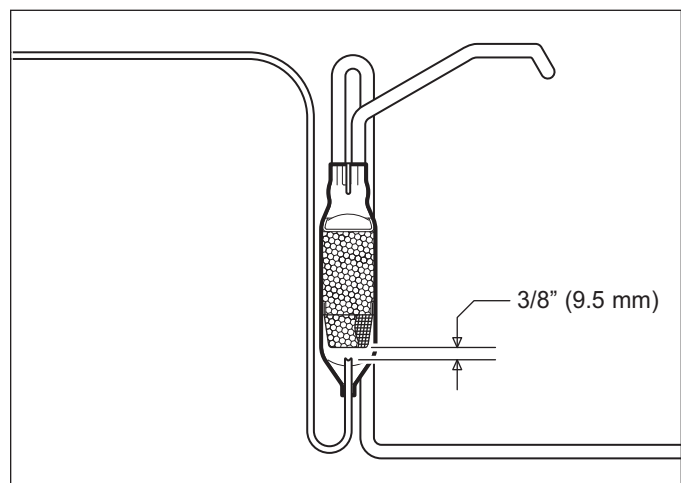

Figure 7-120. Capillary Tube Insertion Note
- When installing replacement filter-drier, insert capillary tube until it touches screen inside drier, then pull capillary tube away from screen approximately 3/8" before brazing. (See Figure 7-120).